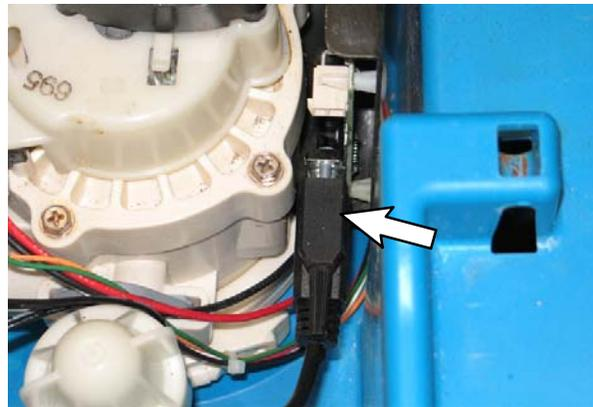

**FIG. 23**
24. Inspect the db9 cable connection above the float switch connection for corrosion. Apply dielectric grease to connection if necessary. (Fig. 23)